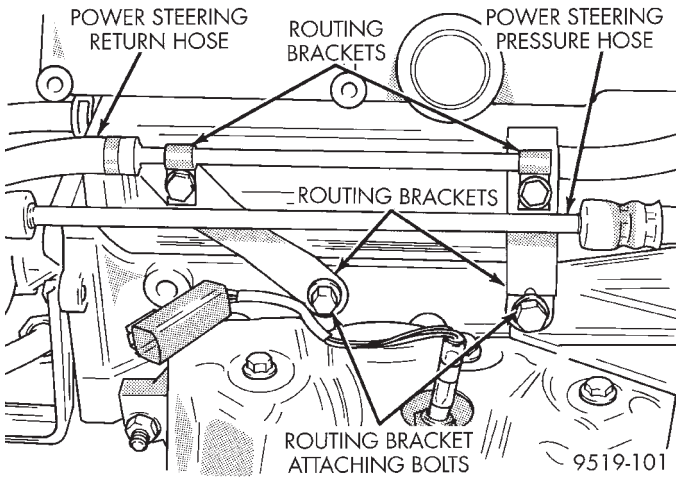

Fig. 21 2.5 Liter Power Steering Hose Routing
(7) If vehicle is equipped with a 2.5 liter engine, remove the 2 routing brackets (Fig. 21) attaching the power steering return hose to the power steering pressure hose routing brackets.
(8) Remove the power steering return hose from the vehicle. The power steering return hose is removed from the bottom of the engine compartment.
(8) **If vehicle is equipped with a 2.5 liter engine,** install the 2 routing brackets (Fig. 21) attaching the power steering return hose to the power steering pressure hose routing brackets.